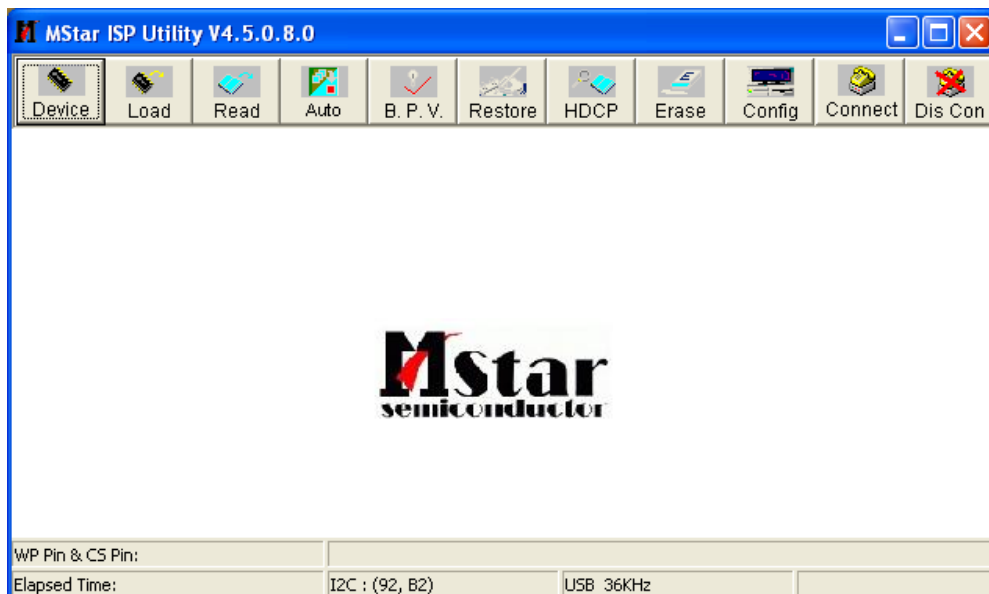

Fig4
4.2. Double-click  to run the program as figure4.